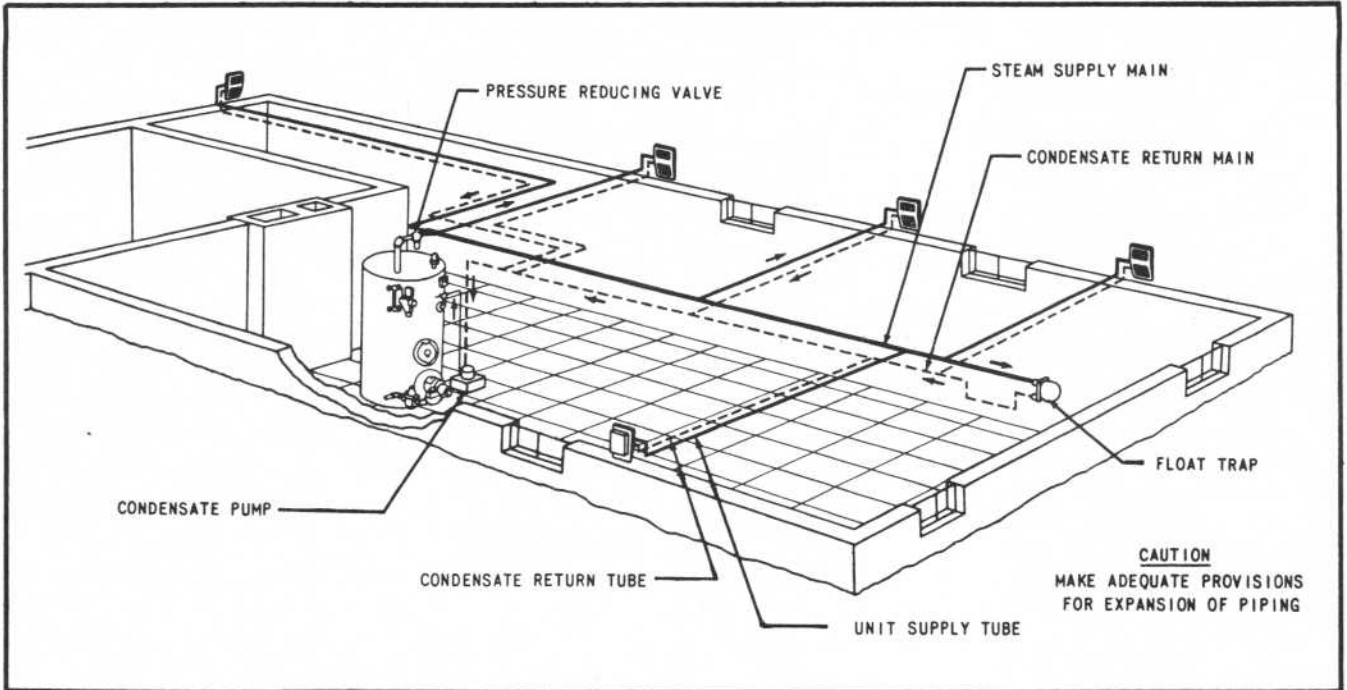

Figure 3 - Central Main System - Up-Feed to Units With Tubing Take-Offs
- b. CENTRAL MAIN, UP-FEED TO UNITS (Figure 3.) This system may be used where units are located on the floor above the main with tubing runs not over 10 to 15 feet in length; or in multi-story buildings with pipe run-outs from the main to vertical supply risers.